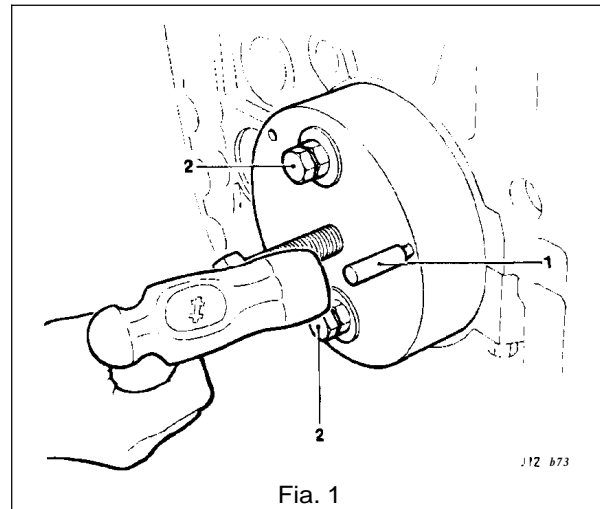

Fig. 1
- Remove the sprocket retaining tool – Service Tool JD 40 (1 Fig. 1).